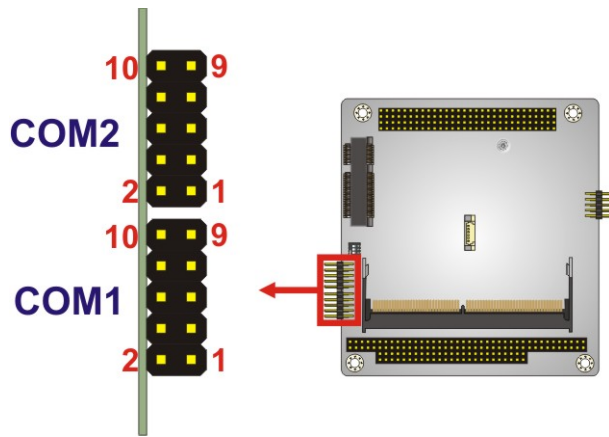

Figure 3-17: RS-232/422/485 Serial Port Connector Locations
- CN Location:** See **Figure 3-17**